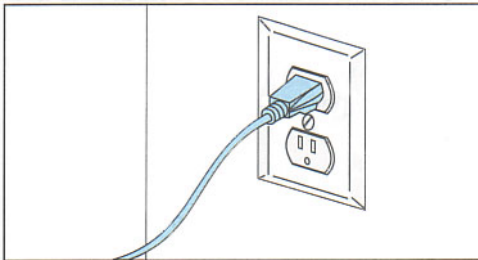

Figure 3. Connecting to a grounded electrical outlet
1. Connect the male end of the supplied power cord directly into a grounded electrical outlet, as shown in Figure 3 below. If using a UPS, connect the cord directly into the UPS.